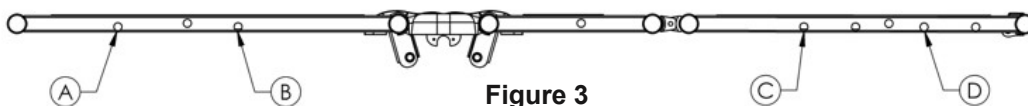
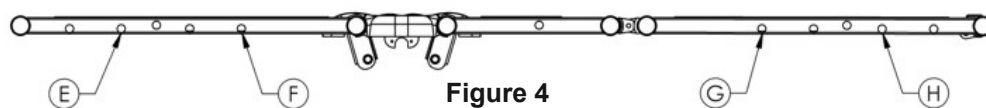

Figure 3
Figure 4
2. Insert the side rail in holes A, B, C, and D for 80" bed (Figure 3) and in holes E, F, G, and H for 76" bed (Figure 4).